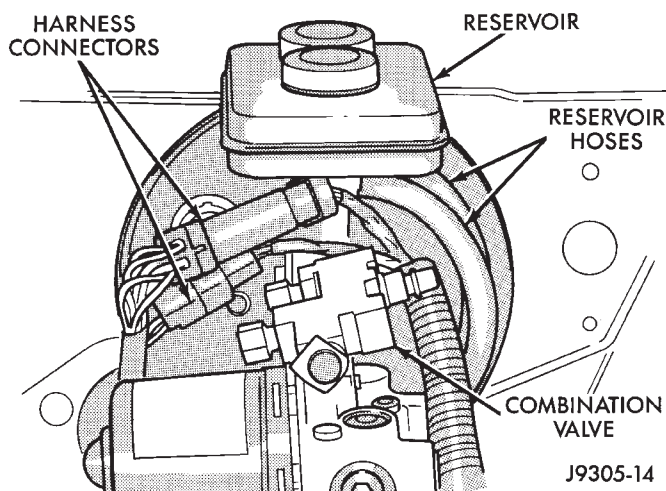
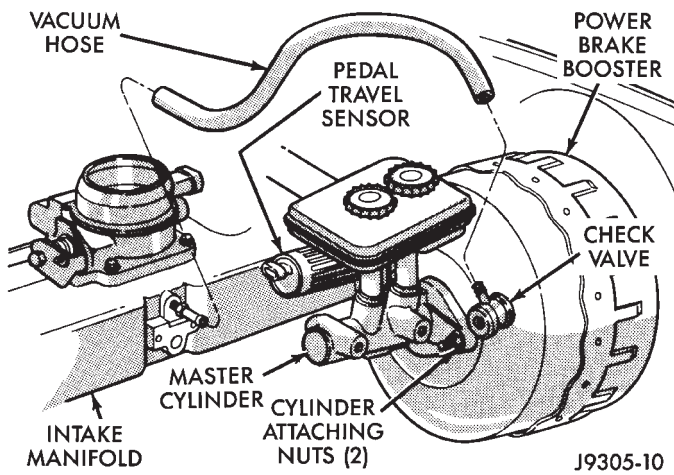

Fig. 2 Harness, Reservoir Hose And Valve Position
Fig. 3 Master Cylinder Mounting
(4) Disconnect antilock harness connectors and move wire harnesses aside for working clearance.
(5) Remove clamps that secure reservoir hoses to HCU pipes.
(6) Position small drain container under master cylinder reservoir hoses.
(7) Disconnect reservoir hoses (Fig. 2) from HCU pipes and allow fluid to drain into container. Discard drained fluid.
(8) Disconnect and remove combination valve. Refer to procedure in this section.
(9) Disconnect brakelines at master cylinder.
(10) Remove nuts attaching master cylinder to booster mounting studs (Fig. 3).
(11) Remove master cylinder. Pull cylinder forward and off studs and work it out of engine compartment.
(3) Connect brakelines to master cylinder. Tighten line fittings to 15 N•m (132 in. lbs.) torque.
(4) Connect reservoir hoses to HCU pipes. Be sure hose clamps are securely in place.
(5) Verify that master cylinder and booster are properly attached before proceeding.
(6) Install and connect combination valve.
(7) Connect antilock harnesses (Fig. 2).
(8) Fill master cylinder reservoir and bleed brakes. Refer to bleeding procedures in section dealing with brake bleeding and adjustments.
(9) Install windshield washer reservoir and air cleaner.
(10) Connect battery negative cable.